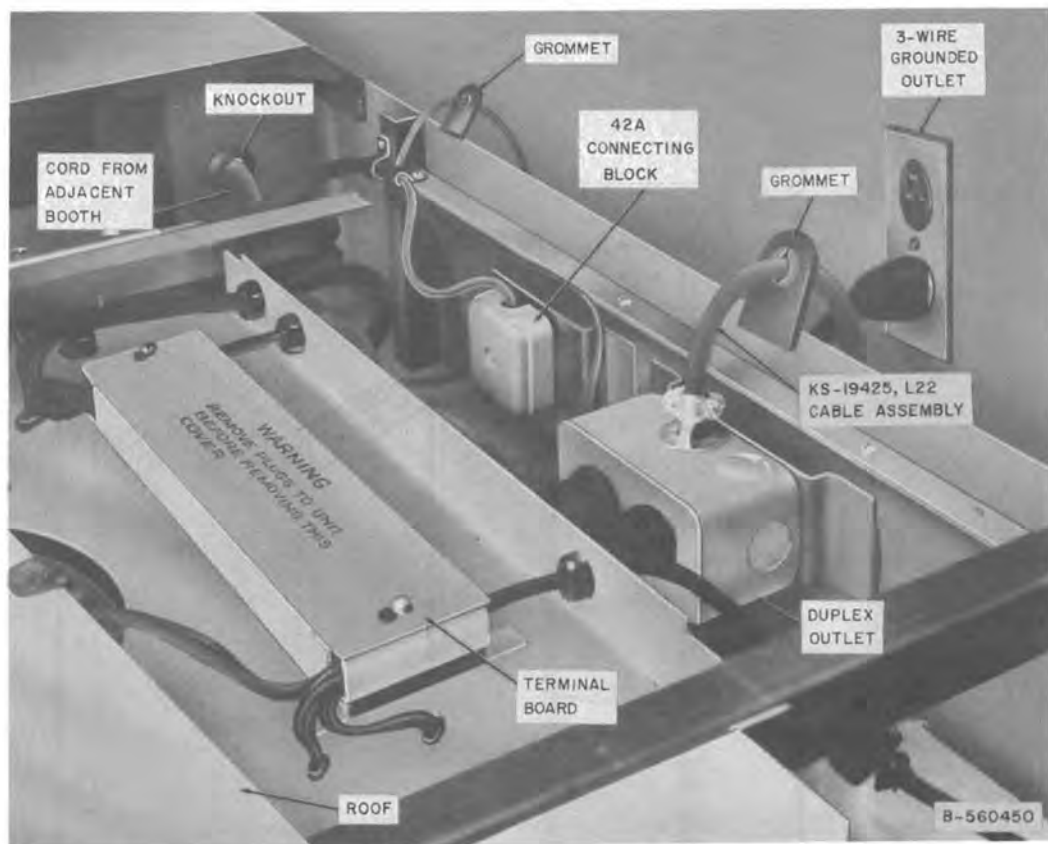

Fig. 6—Partial View of Ceiling Area
2.13 A 42A connecting block (Fig. 6) is included as part of the booth; however, a 123A1A protector may be used if required but must be ordered separately.
3.12 To make wiring accessible, remove dome assembly and work from inside of booth or remove the roof retaining screws and slide roof forward as shown in Fig. 6.
3.13 Insert station wire through roof grommet, through the cable clamp, and terminate on the 42A connecting block (Fig. 6) or 123A1A protector.
- 3.21** Internal electrical wiring can be checked on the terminal board located on ceiling above the light fixture (Fig. 6).